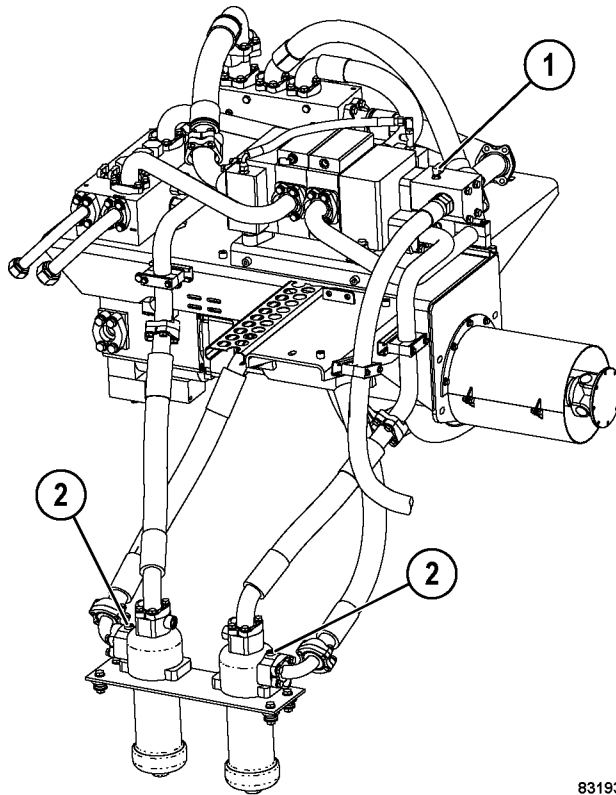
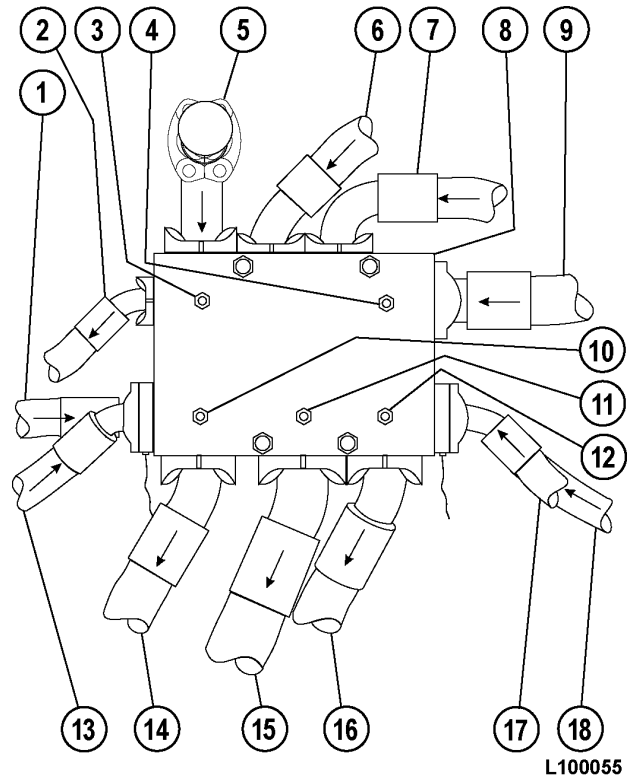

FIGURE 10-12. PRESSURE TEST PORTS
FIGURE 10-15. BRAKE/HOIST RETURN OIL MANIFOLD
1. Install a 1 000 kPa (100 psi) low pressure gauge at brake cooling circuit test port (1, Figure 10-12) at the front of the hoist valve to monitor the front brake cooling oil pressure.
3. Install a 25 000 kPa (3,500 psi) gauge in each hoist pump filter pressure test port (2, Figure 10-12).
4. Install a 1 000 kPa (100 psi) low pressure gauge at test port (3, Figure 10-15) in the brake/hoist return manifold to monitor the rear brake cooling supply pressure.
- ☐ Pressure at front brake cooling circuit (1, Figure 10-12) and rear brake cooling circuit (3, Figure 10-15) should be approximately 172 kPa (25 psi) or less.